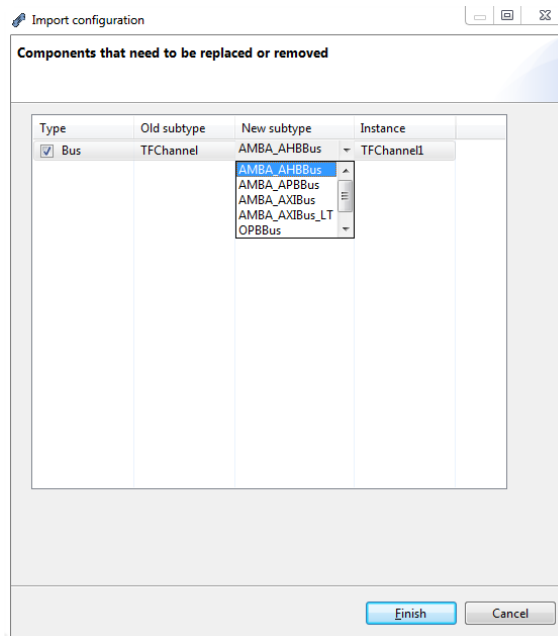

Figure 3 Refinement of the bus model
A window will appear (Figure 3) in order to choose a more refined bus model for *TFChannel* (e.g., AT) – i.e., a functional bus (LT) is not relevant for architectural level.